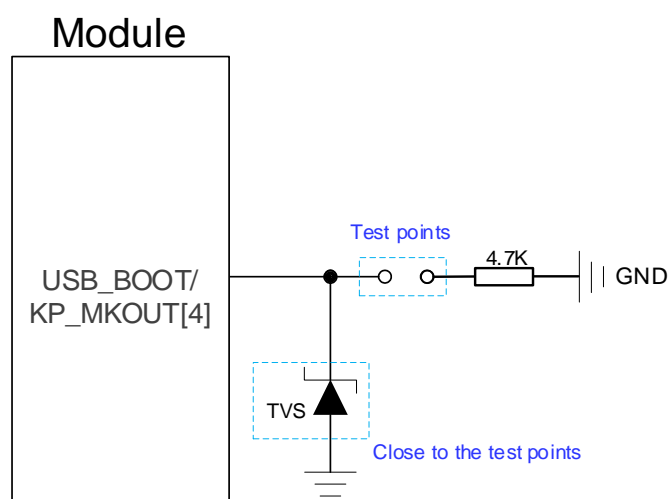

Figure 15: Reference Design of USB_BOOT
2. Follow the above timing when using MCU to control module to enter the forced download mode. If you need to manually force the module to enter forced download mode, directly connect the test points shown in **Figure 15**.